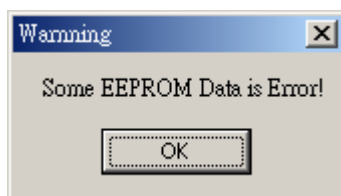

Fig 5-19 “EEPROM data Error” dialog
Step 4: When the I-7000 modules scan is finished; the result of scan will be compared with the parameters stored in the EEPROM of the I-7241D. If any difference has been detected, the warning message will pop up as figure 5-19.